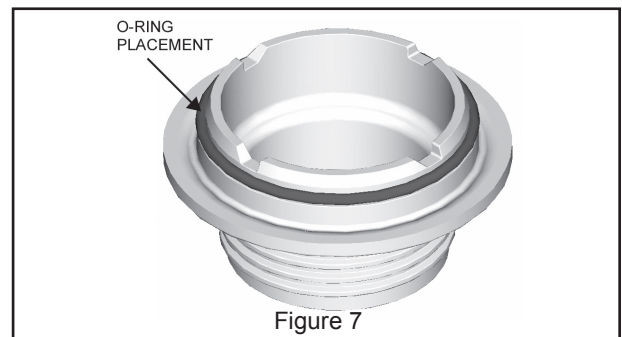

Figure 7
- The valve adapter o-ring sits on the first step on the adapter. See Figure 7.